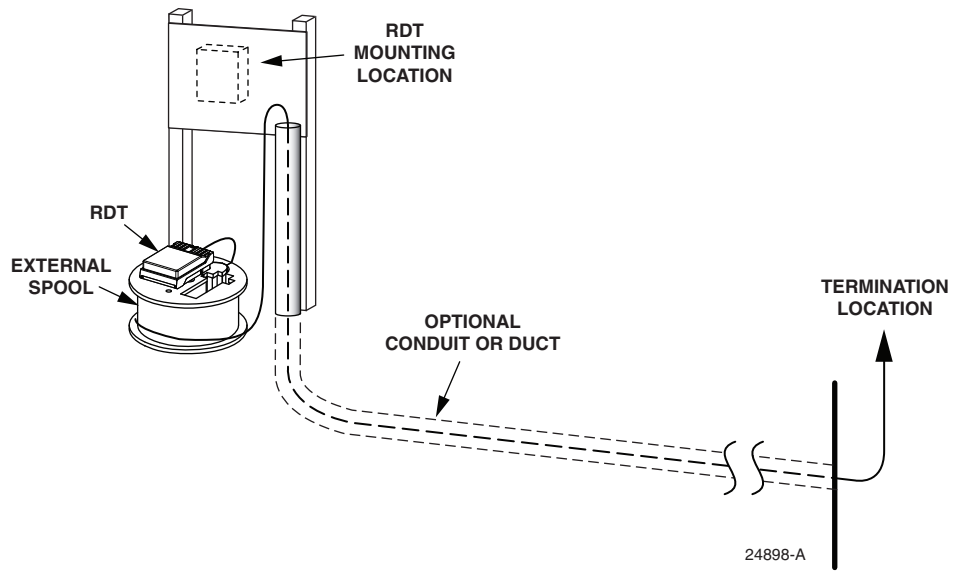

Figure 5. Routing Pulling Cord Through Conduit or Duct
5. Tie a pulling cord to the swivel and guide the pulling cord into the conduit or duct as shown in Figure 4 and Figure 5.